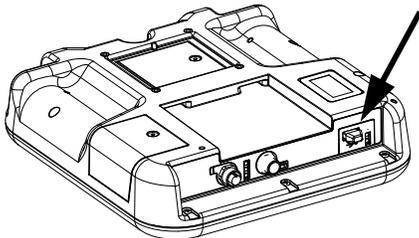

Fig. 60: ADM USB Port
1. Insert USB flash drive into USB port. See Fig. 60.